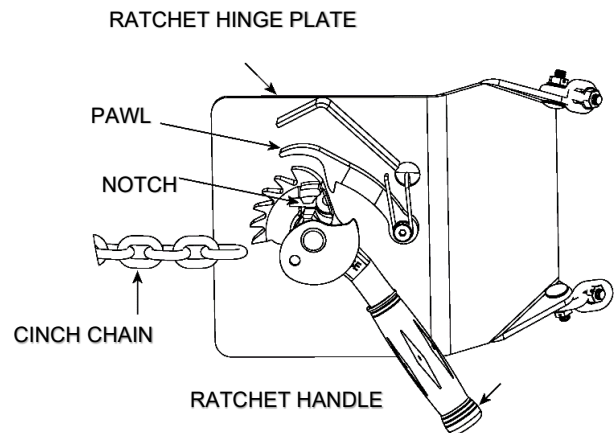

Figure 3.2
3. Attaching the drum: Drape the chain across the front of the drum and engage a link into the notch in the ratchet (Figure 3.2). Turn the ratchet clockwise to tighten the chain. If the ratchet turns until the pawl is beyond the last ratchet tooth, turn the ratchet back and slide the next link into the ratchet notch and try tightening again. The chain must be held tightly against the drum with the pawl engaged securely in the ratchet teeth.